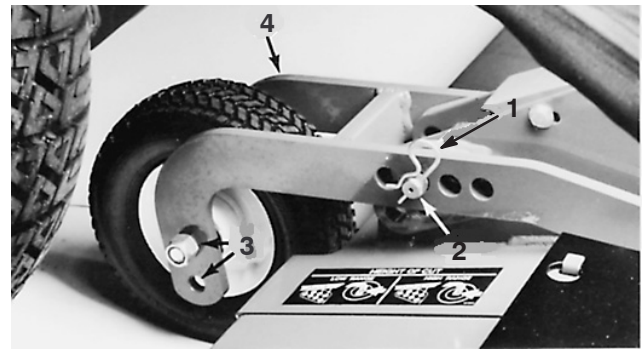

Figure 13
3. On the front cutting unit, remove the hairpin cotter and clevis pins from the rear castor pivot arms (Fig. 13). Align the pivot arm holes with selected height-of-cut bracket holes in the deck frames, insert clevis pins and install the hairpin cottes (Fig. 13).